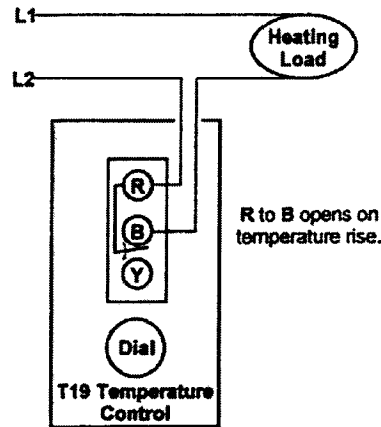

Figure 2: Typical Wiring for Heating Applications
When the temperature at the sensing element rises to the setpoint (dial setting), the switch between R and Y closes, and the switch between R and B opens on Single-Pole Double-Throw (SPDT) models. See Figures 2, 3, and 4.
5. Make wiring connections to the screw terminals. See Figures 2, 3, and 4.